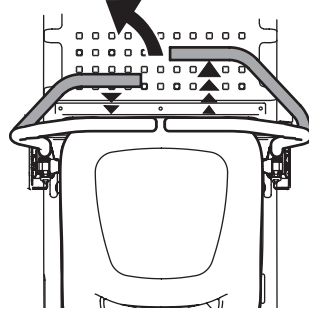

Figure 22
1. To turn to the left, move the left drive control lever rearward of the right drive control lever (Figure 22).